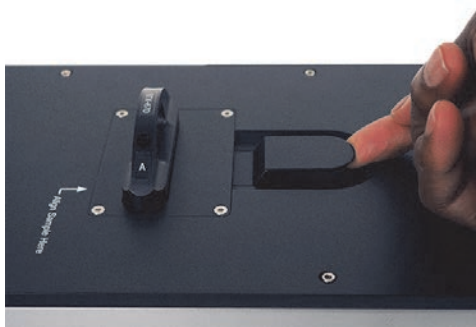

Figure 3-9 Unlocking the sample carrier
1. Lift the lever to unlock the sample carrier (see Figure 3-9 on page 49).